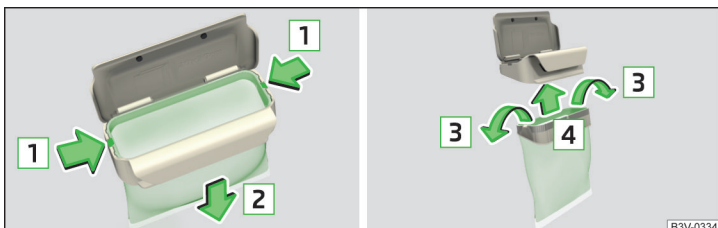

Fig. 88 Replace bags
- Press the two locking lugs on the frame in the direction of arrow **1**» Fig. 88.